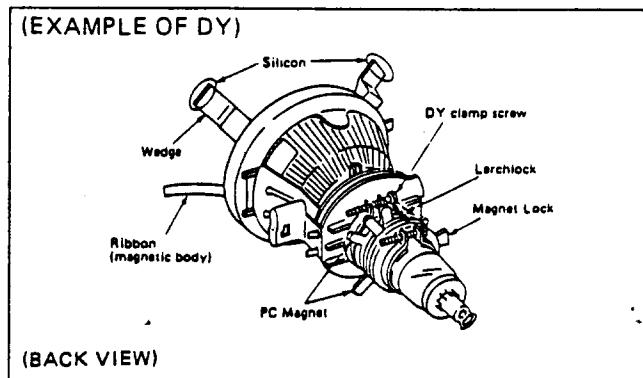

Fig. 10
- Coat the PC magnet with lericlock (Fig. 10)
- Coat silicon on the three wedges. (Fig. 10)